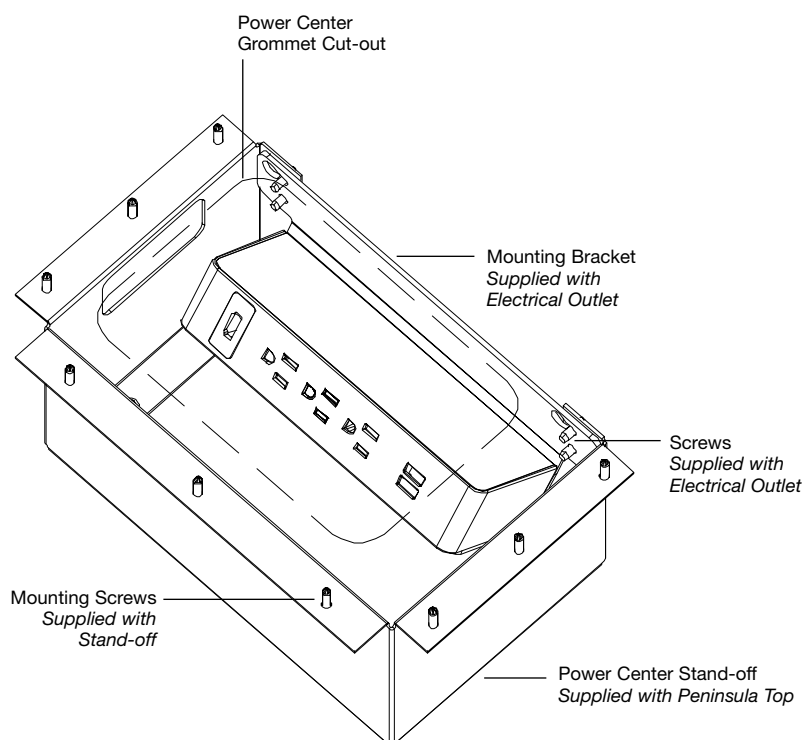

Figure 4
The Desktop Outlet for Peninsula Power Center Stand-off works in conjunction with the Power Center Stand-off and the Power Center (PC) Grommet to bring electrical receptacles and data outlets to the worksurface. The Power Center Standoff and Power Center Grommet are included with a Peninsula top when specified. See **Figure 4**. The Peninsula Power Center Electrical Outlet is ordered separately in a choice of 3 configurations. See **Figure 3** for configuration options.